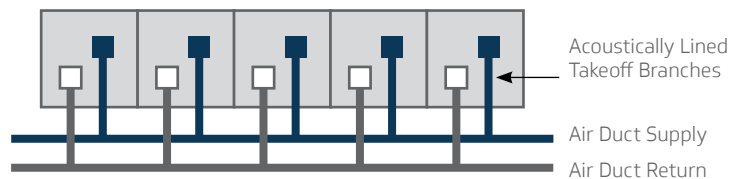

Figure 31
- Ventilation ducts will provide the best isolation if they are lined internally with absorption and separately feed each room off a main duct (figure 31).